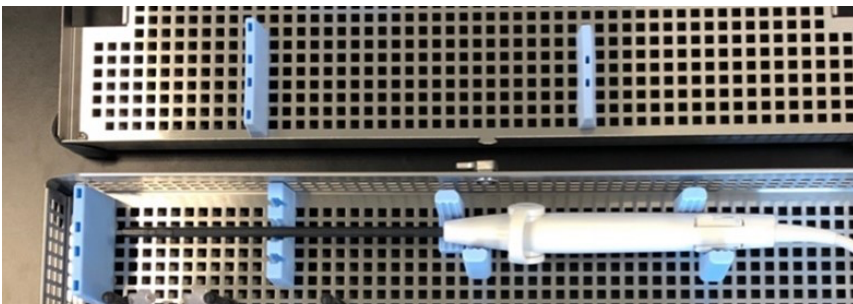

Figure 6-2 Proper storage of the IUUS Probe with its Articulating Tip set to 0°.
4. Place the IUUS Probe within the tray with the articulation angle set to 0°, see Figure 6-2.